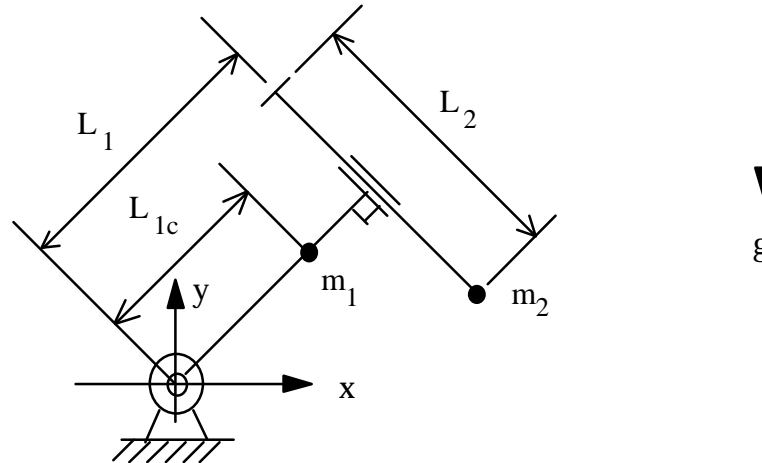

Figure 4
Q.3 Assume that the robot shown in Figure 4 is in the vertical plane, the mass of each link is concentrated at a point in the indicated mass centres with m_1 and m_2 being the equivalent masses of links 1 and 2 respectively, L_{1c} is the length from the centre of mass m_1 to joint 1, L_1 and L_2 are the lengths of links 1 and 2, t_1 and t_2 are the output torques of motors 1 and 2 which are located at the joints.